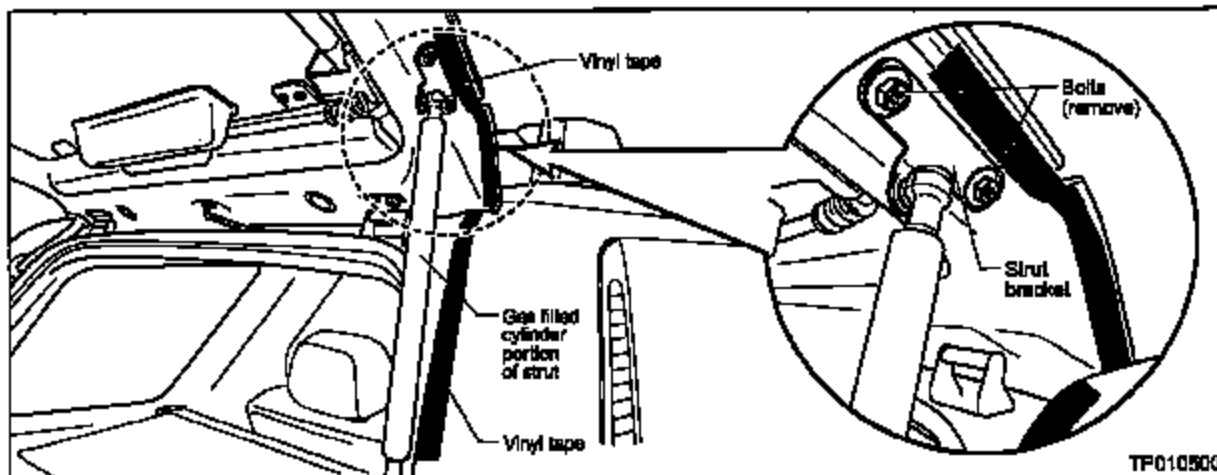

Figure 3
1. Apply vinyl (electrical) tape as shown in Figure 3 to protect the vehicle's paint.
2. Remove the two bolts that secure the strut bracket to the vehicle (see Figure 3).